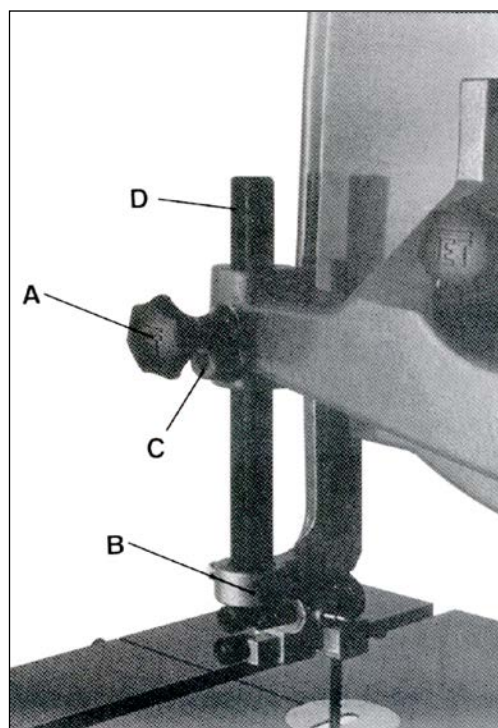

Figure 2
- 9. Loosen the two hex cap screws holding the metal blade guard assembly to the upper blade guide bracket (B, fig. 2) and remove the blade guard.
- 10. Remove the upper blade guide bracket (B, Fig. 2) from the guide post (D, Fig. 2).
- 11. Loosen the guide post lock knob (A, Fig. 2). Loosen, but do not remove set screw (C, Fig. 2) to release tension on the guide post.
- 12. Tighten set screw (C, Fig. 2).